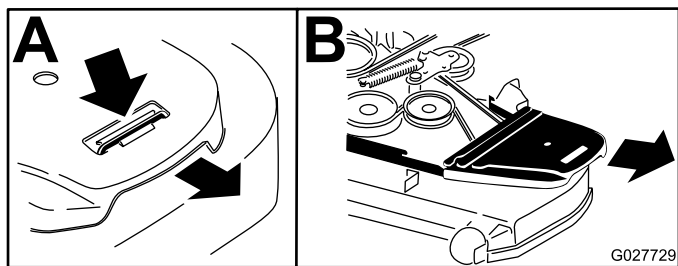

Figure 78
5. Remove the plastic belt cover (Figure 78).
4. Remove the belt covers (Figure 78).